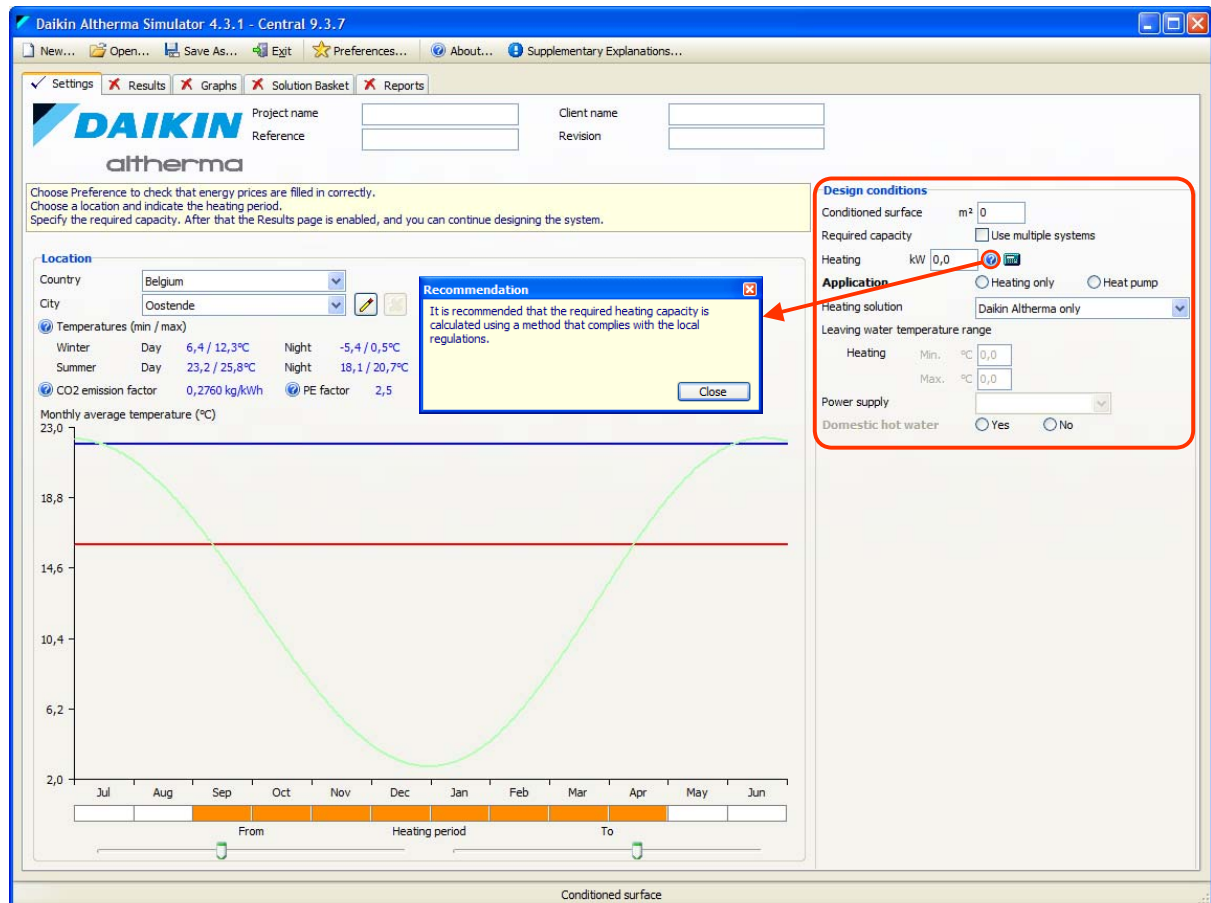

Figure 23: The settings screen, ready to start making a selection
After having filled in the minimum required data in the preferences screen (see chapter 3), you can start making a selection by filling in or clicking fields at the right hand of the settings tab of the main window (see Figure 23).
This selection part is highly dynamic and changes depending on what you select. The fields shown in Figure 23 appear in all selections:
- At several places on different screens, Daikin Altherma has a small blue question mark icon. Clicking it brings up a window containing an explanatory text, such as the one shown in Figure 23. Note that the main settings tab contains two more of those icons (at the left of the screen), which are explained in section 7.3.